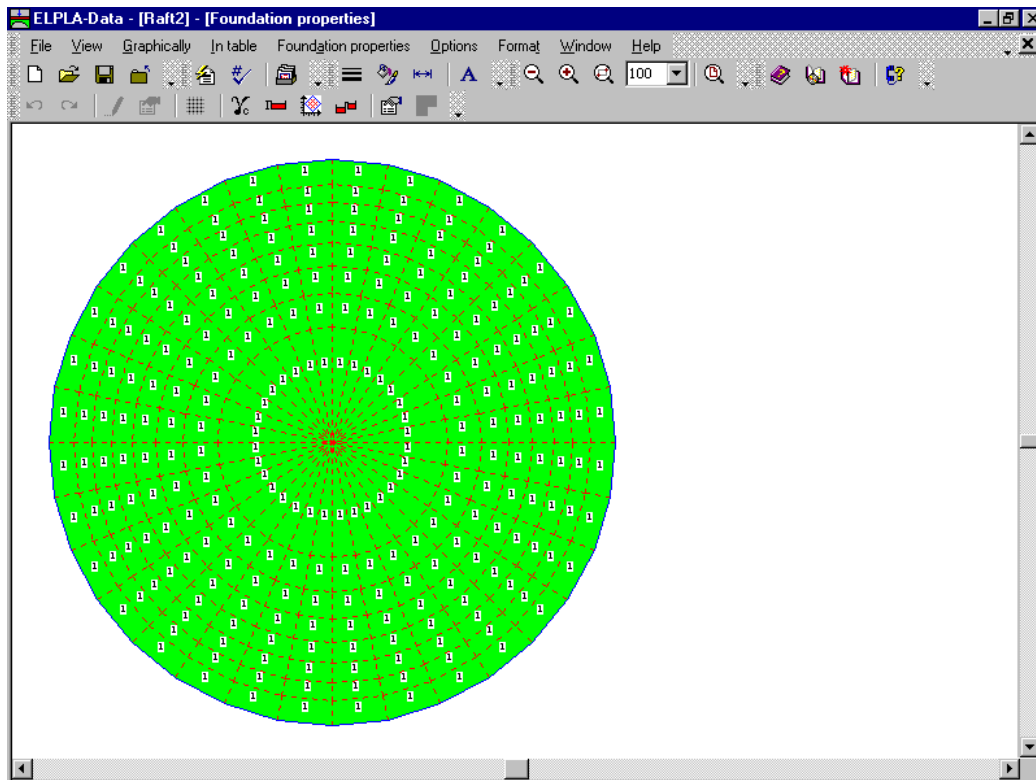
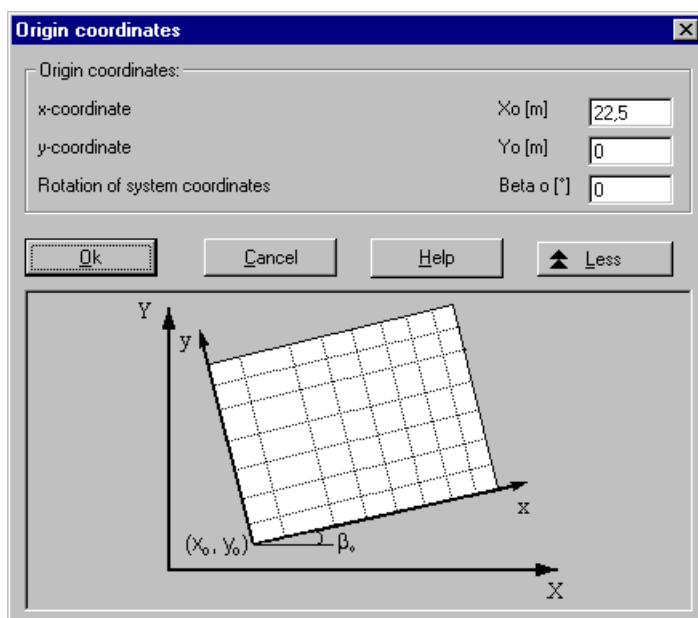

Figure 3-29 "Foundation properties" embedded program
Figure 3-30 "Origin coordinates" dialog box
To modify the origin coordinates of raft 2, choose "Foundation properties" command from "Data" menu of *ELPLA-Data* window. The following embedded program in Figure 3-29 appears.
- Choose "Origin coordinates" command from "Foundation properties" menu in the window of Figure 3-29. The following dialog box in Figure 3-30 appears
- Choose "Save foundation properties" command from "File" menu in Figure 3-29 to save the foundation properties
- Choose "Close foundation properties" command from "File" menu in Figure 3-29 to close the "Foundation properties" embedded program and return to *ELPLA-Data*